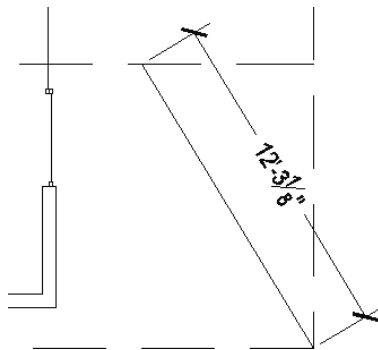

FIGURE 12.33: An aligned dimension added to the cabin drawing
5. Click to place the dimension. Your drawing should look similar to Figure 12.33.